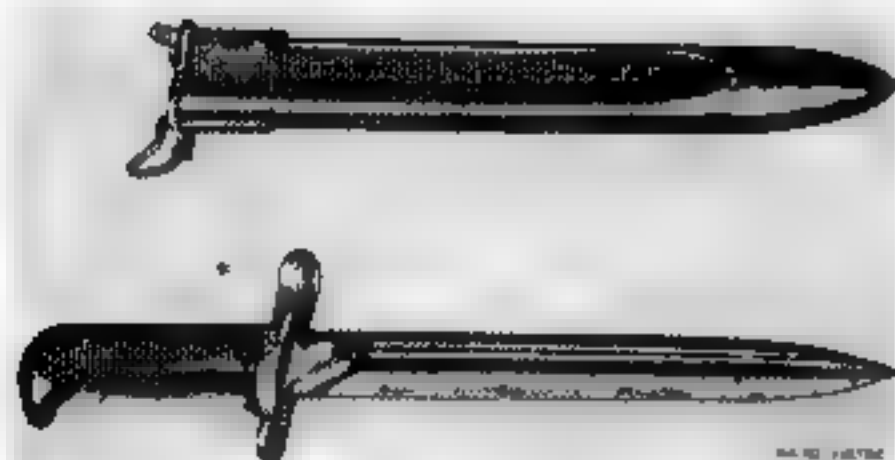

Fig. 45. Bayonet M1 and scabbard M7.
15. For the purposes of in-fighting, prisoner guarding, riot control and similar missions the Garand rifles may be fitted with a bayonet. The Bayonet M1 (Fig. 45) and scabbard M7 were original issue for the Garand rifles, and also fitted the M1903A3 "Springfield" rifles. The Bayonet M1 has an over-all length of 14 7/16 inches, and a blade length of 10 inches. It is fitted by